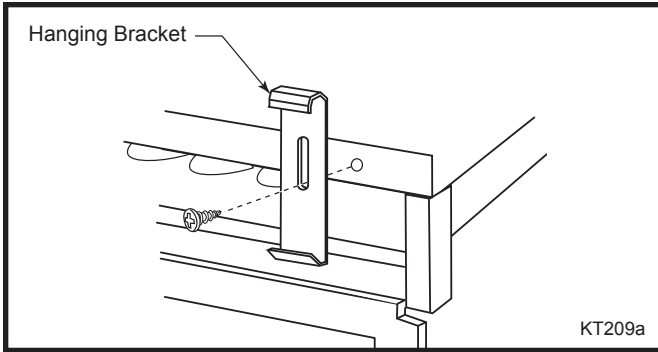
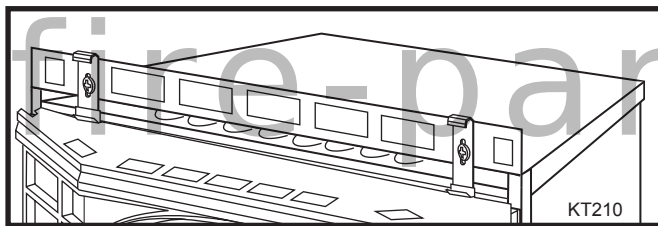

Fig. 65 Hanging bracket alignment.
Fig. 66 Hang the window grille or the steel frame onto the lower tabs of the hanging brackets.
- Install the hanging brackets. (Fig. 65)
- Install the two (2) ceramic pieces inside the bay window.
- Install the bay window by hanging it onto the lower tabs of the hanging brackets. (Fig. 66)